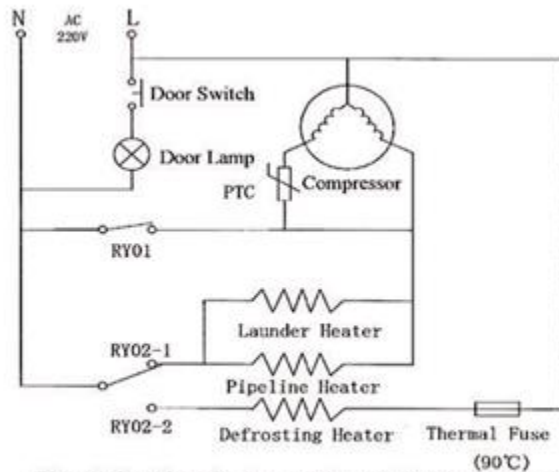

Fig. 6-7: Circuit Connection of Main Components
6. as indicated in Fig.6-7, connect the temperature sensor of refrigerating chamber, temperature sensor of evaporator, RY01, RY02-1 and RY02-2 at the output terminal of the hanging tank respectively to the numbers on the terminal block at the wiring area of training table, and then carry out commissioning and operating practice on the whole machine.